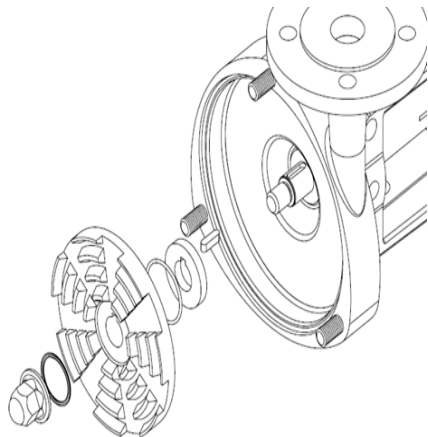

Figure 3
5. Remove the impeller nut, the nut gasket, impeller, shim, and then the key. This process can be seen in Figure 3.